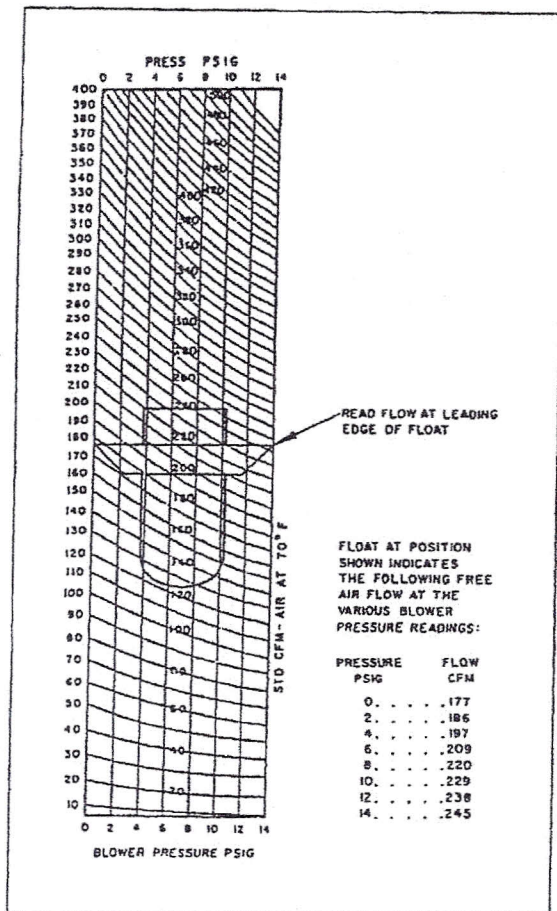

Figure 4-2. Flowmeter Scale
4-10. Flowmeter (13, Figure 4-1) is used to determine the amount of air leaking from the aircraft. To interpret the flowmeter, reference must be made to BLOWER PRESSURE gage (1) and RATE OF CLIMB indicator (2). Flowmeter reading should be made when the CABIN PRESSURE gage (4) indicates required test pressure and the RATE OF CLIMB indicator (2) indicates no change. Find the point on the flowmeter scale (Figure 4-2) where the vertical line, representing BLOWER PRESSURE, intersects the top edge of the float (largest diameter) around the flowmeter float. The point of intersection will fall on/or near one of the diagonal lines, read the flow directly in cubic feet per minute.